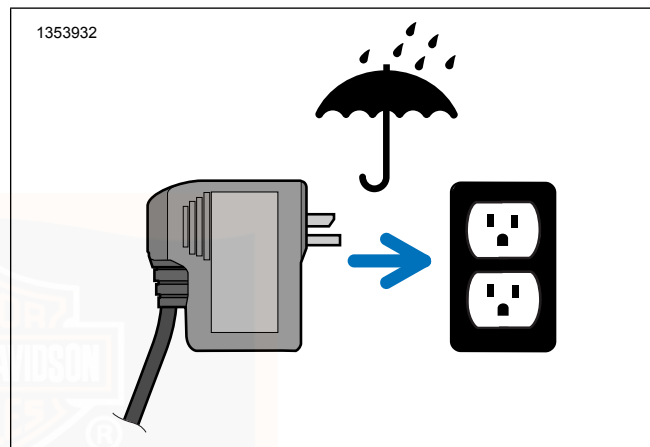

Figure 11. EVSE Charge Module - Keep Dry
1. Plug the CHARGE MODULE into the appropriate wall outlet. See Figure 11.